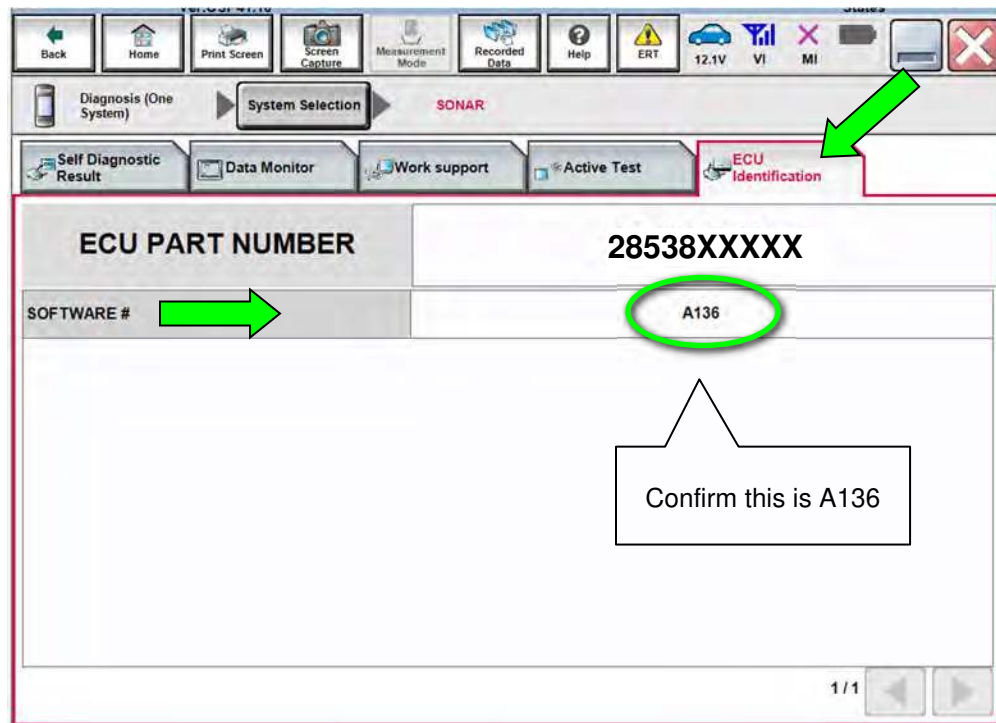

Figure 36
61. Confirm the SOFTWARE #. See Figure 36.